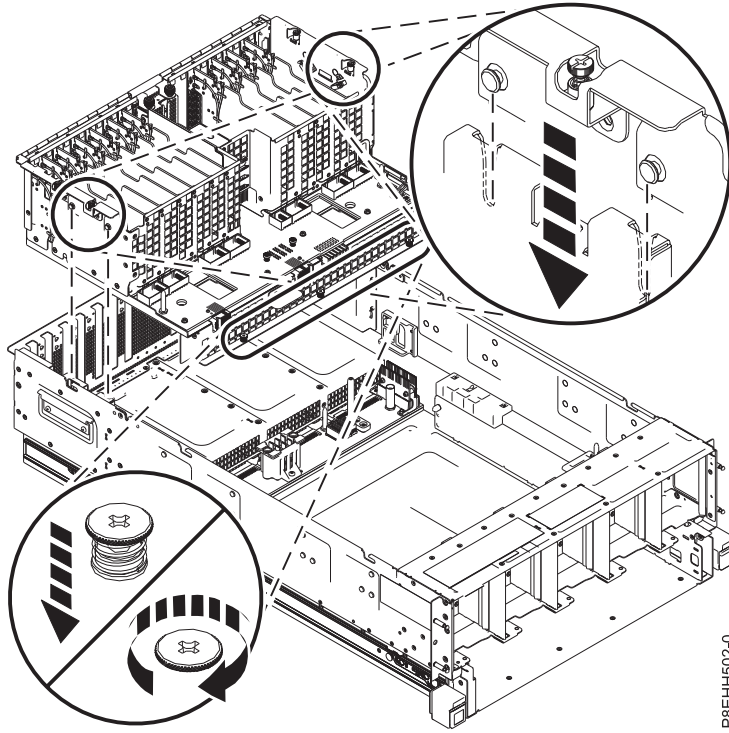

Figure 17. Replacing the I/O backplane
2. Grasp the sides of the I/O backplane and place it in the system. Tighten the three captive screws in the front of the I/O backplane by using a #1 Phillips screwdriver, as shown in Figure 17 on page 17.